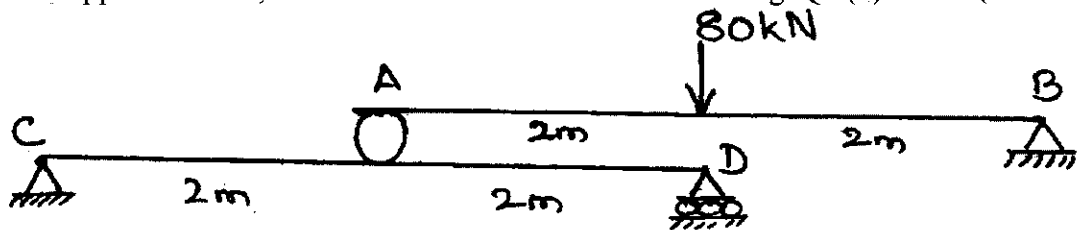

Fig. Q5 (b)
- b. Find the support reaction, at C and D for the structure shown in Fig. Q5 (b). (10 Marks)